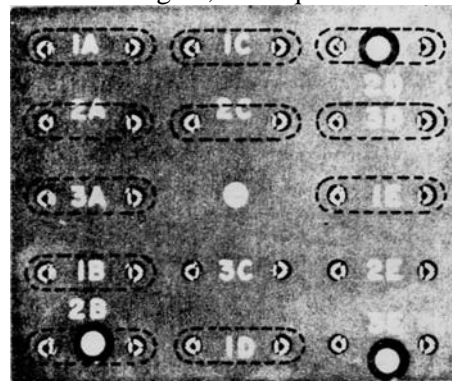

Figure 3-6. Crystal socket locations
a. Selection of Crystals. The crystals supplied in Crystal Unit Set, Quartz CK-31/FRC-93 cover the frequency ranges of 3.4 to 5.0 MHz and 6.5 to 30 MHz. Figure 3-6 shows crystal socket locations. Select these crystals as follows:
(1) If the lower edge of the desired 200-kHz band is 11.8 MHz or less, the required frequency is equal to the lower edge of the desired band plus 3.155 MHz. *For example*, if the desired band is 4.0 to 4.2 MHz, 4.0 MHz plus 3.155 MHz equals 7.155 MHz.
(2) If the lower edge of the desired 200-kHz band is 12.00 MHz or higher, the required
crystal mounting board and a front panel switch to allow selection of either board. The crystal-mounting board for extra-band operation is located on top of the chassis. If amateur band operation is not needed, extra-band crystals may be substituted in the crystal-mounting board under the chassis. BE SURE the crystals are plugged into appropriate sockets according to table 3-2 and figure 3-6. The transmitter can be operated at other frequencies outside the specified amateur bands or at other 10-meter frequencies by plugging the proper crystals into the mounting boards. Mark the desired lower band edge information on the white card in the BAND switch windows. Make sure this information is marked in the appropriate switch positions.